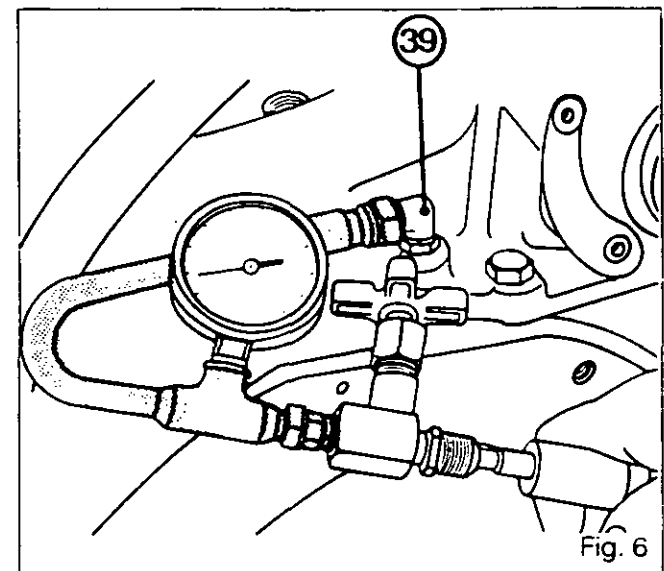

Fig. 6
20. Fit a pressure gauge and valve on the supply connector (39) (Fig. 6).